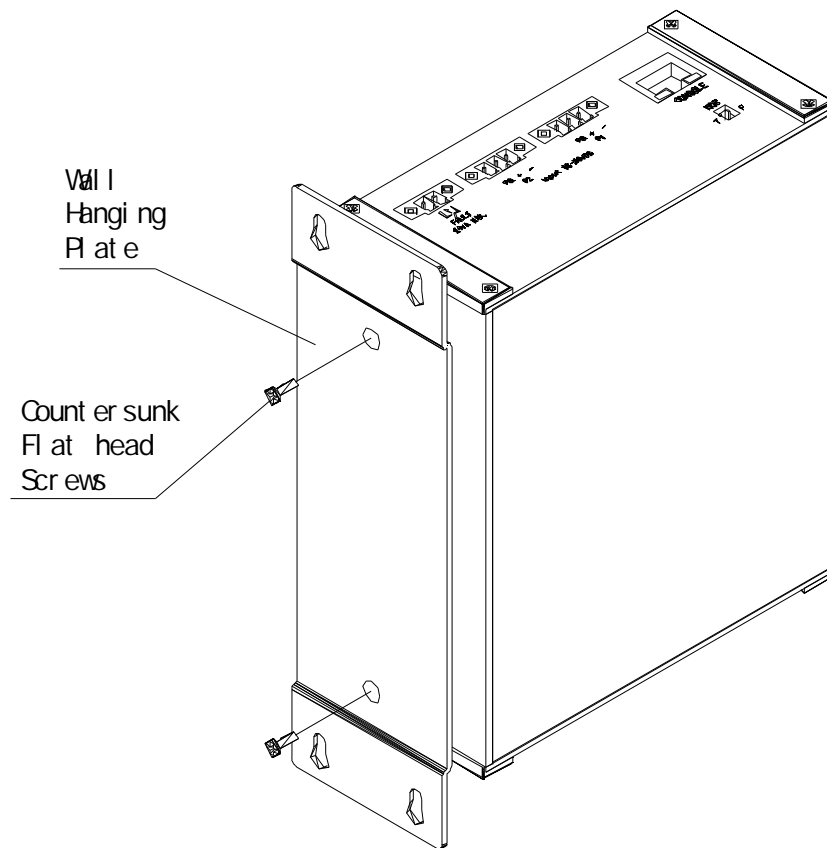

Figure 4-4 Installation of Wall Mounting Board
- 2 . Take out the wall mounting board and its mounting screws (M3×6 cross recessed countersunk flat head screws) from the packing box. Mount the board on the position as the DIN rail connecting seat mounting. Ensure the mounting direction of the board in accordance with the Figure 4-4.